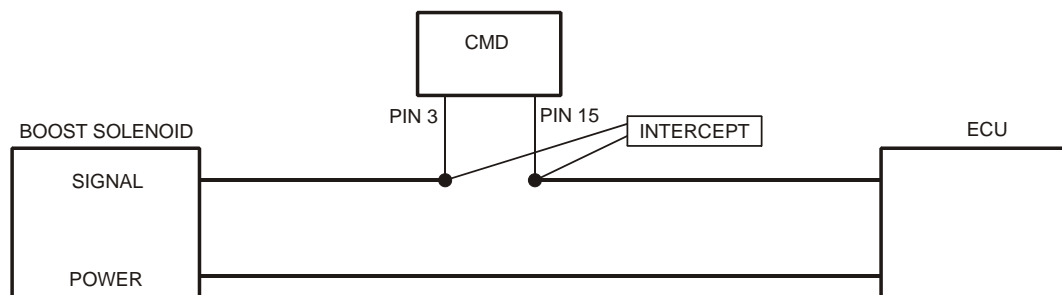

Figure 13: Boost Solenoid Wiring
- 3 Wire the CMD as shown in Figure 13.